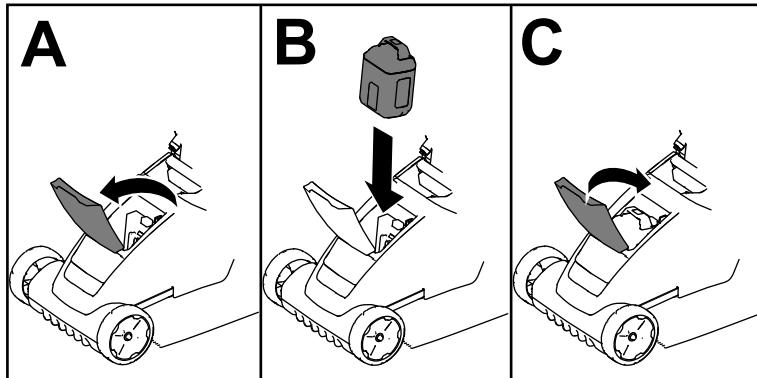

Figure 8
3. Lift up the battery-compartment lid (A of Figure 8).
4. Line up the cavity in the battery pack with the tongue on the machine and slide the battery pack into the compartment until it locks into place (B of Figure 8).
5. Close the battery-compartment lid (C of Figure 8).